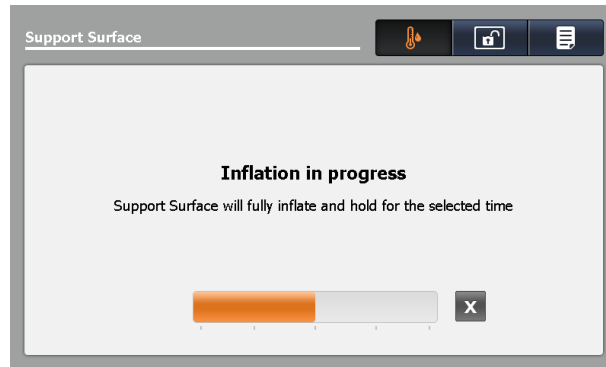

Figure 68: Max Inflation in progress
**Note:** The Inflation in progress window is displayed (Figure 68 on page 74).